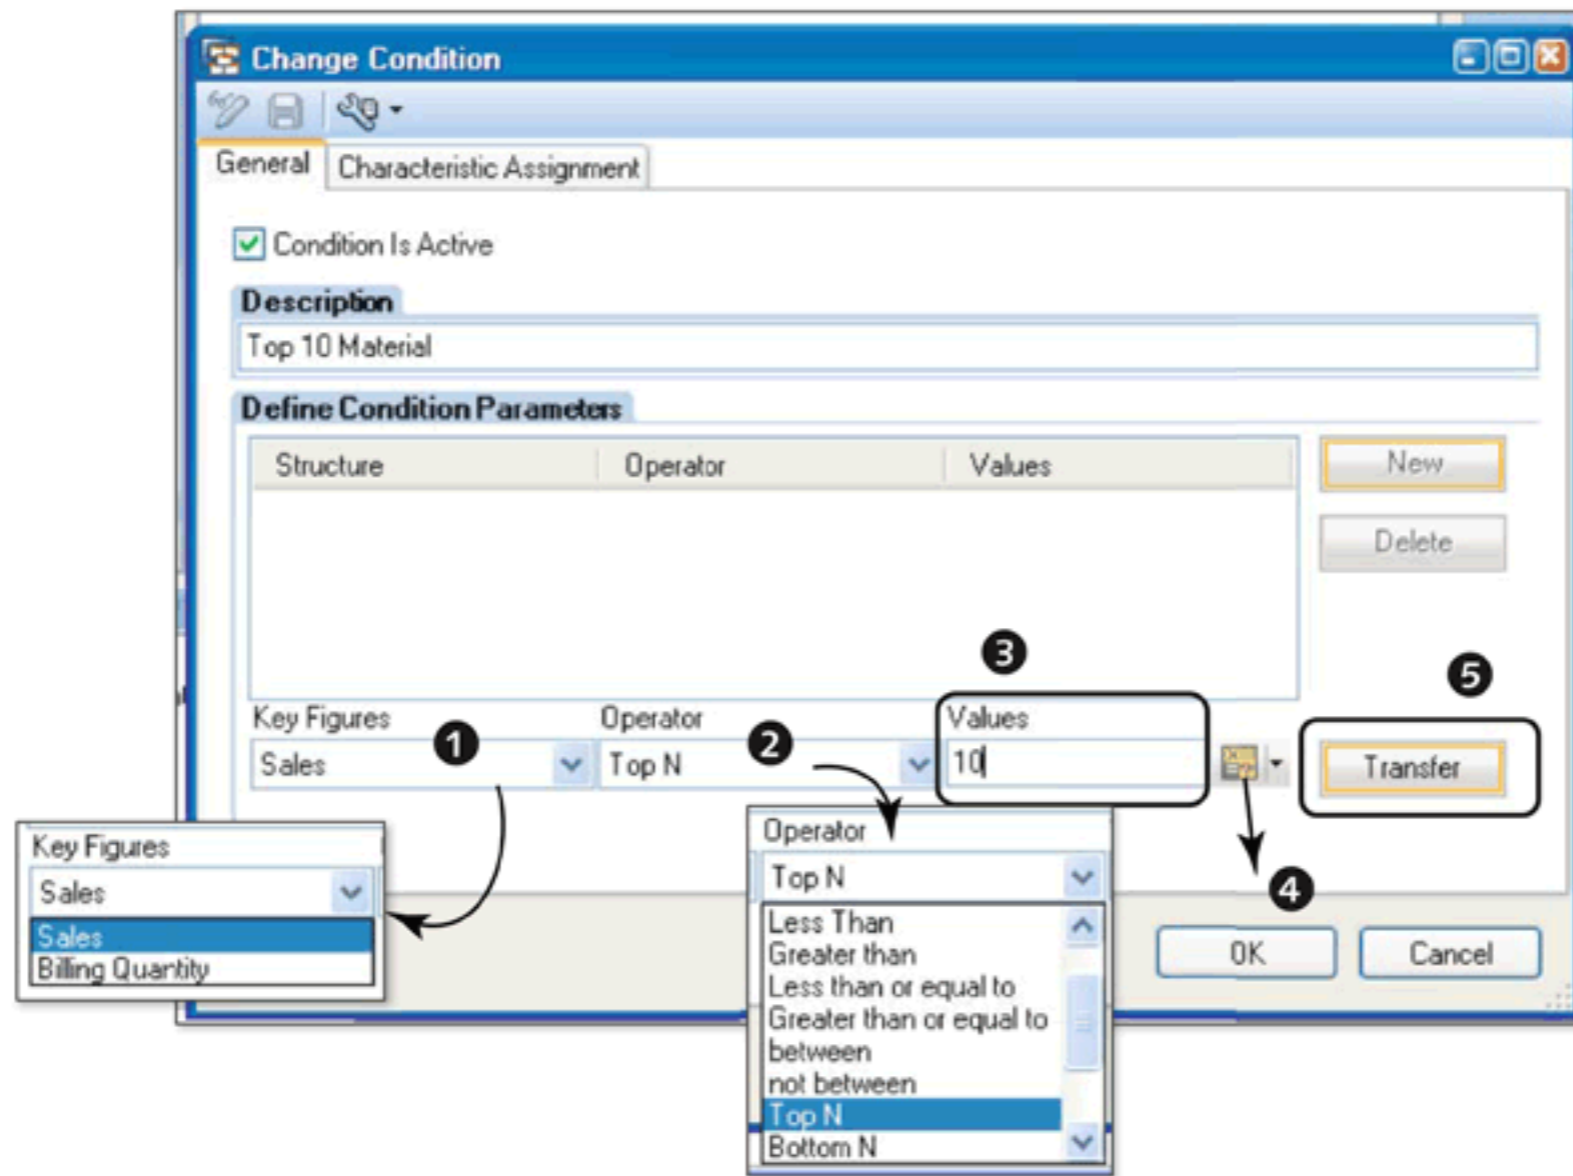
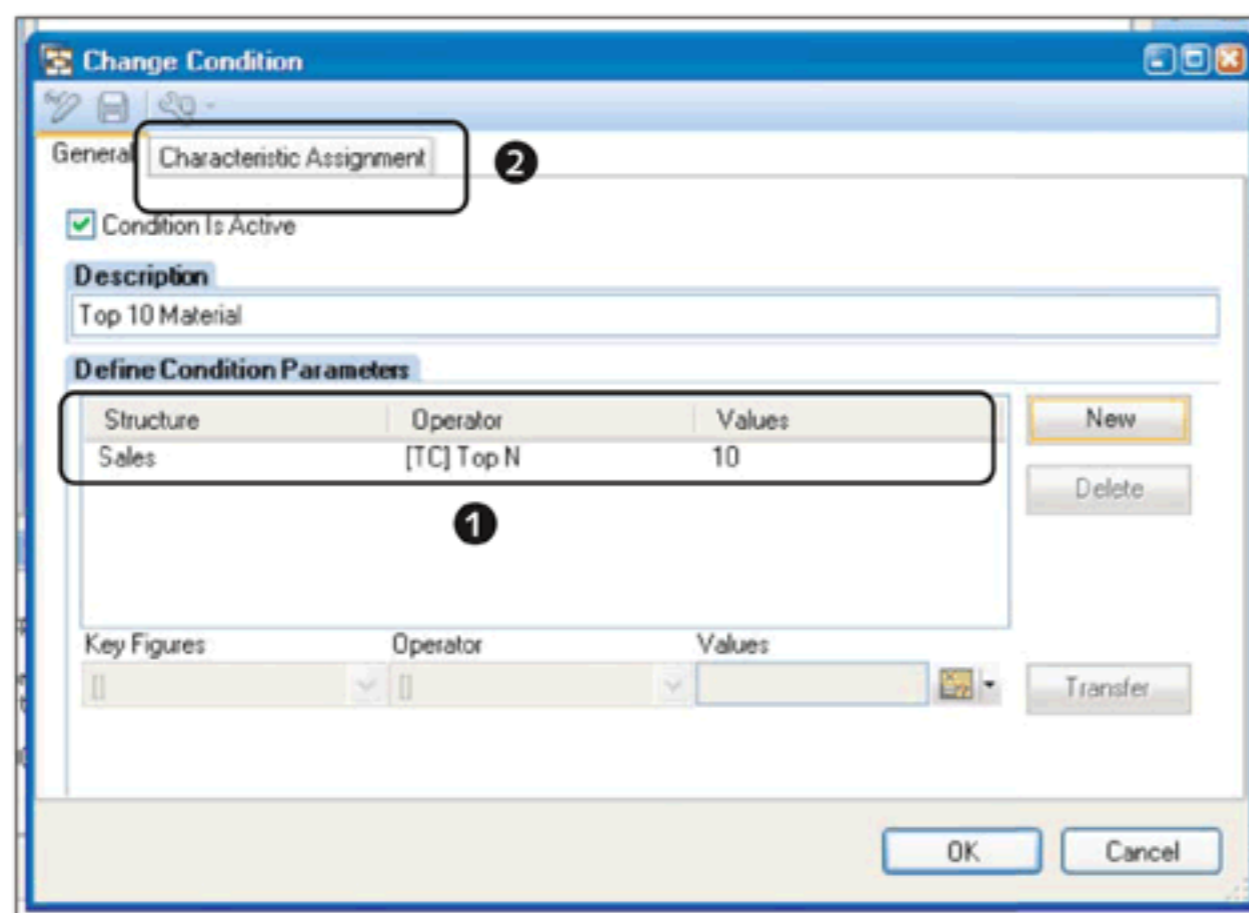

Figure 9.82 Define Condition Parameter
Figure 9.83 Go to Characteristic Assignment
Define the condition parameter as shown in Figure 9.82. You have to specify three fields to define a condition parameter. First select the **KEY FIGURE** on which this condition should be applied (1 of Figure 9.82). Then select an **OPERATOR** from the list of available operators for a condition (2). For our example, we're selecting the operator **TOP N**. (Had the requirement been to show only those materials where total sales is more than \$1,000 USD, you could have chosen the operator **GREATER THAN**.) Then select the **VALUE** for the condition (3). In this case, we have to display the top ten materials, so we enter the value 10. However, you can make this condition more flexible by using a variable for the value (4).
Click on the **TRANSFER** button (5 of Figure 9.82) after the parameter is defined. The defined condition is now visible, as shown in 1 of Figure 9.83. Click on the **CHARACTERISTIC ASSIGNMENT** tab (2) to configure more settings for the condition.